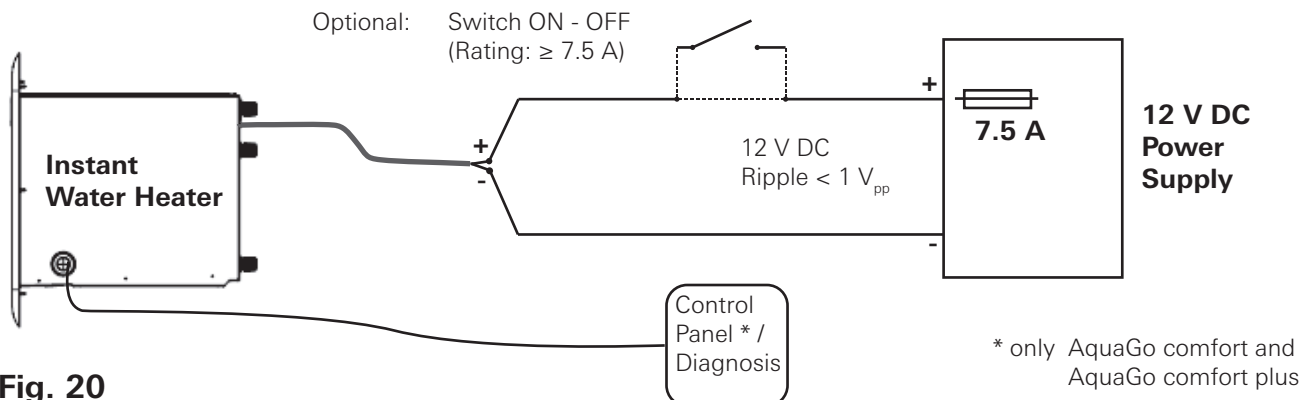

Fig. 20
- Connect the electrical lines with the proper polarity to the 12 V DC power supply (refer to “Electrical connection for all models” on page 31). Install a 7.5 A fuse exclusively dedicated to the appliance (see Fig. 20).